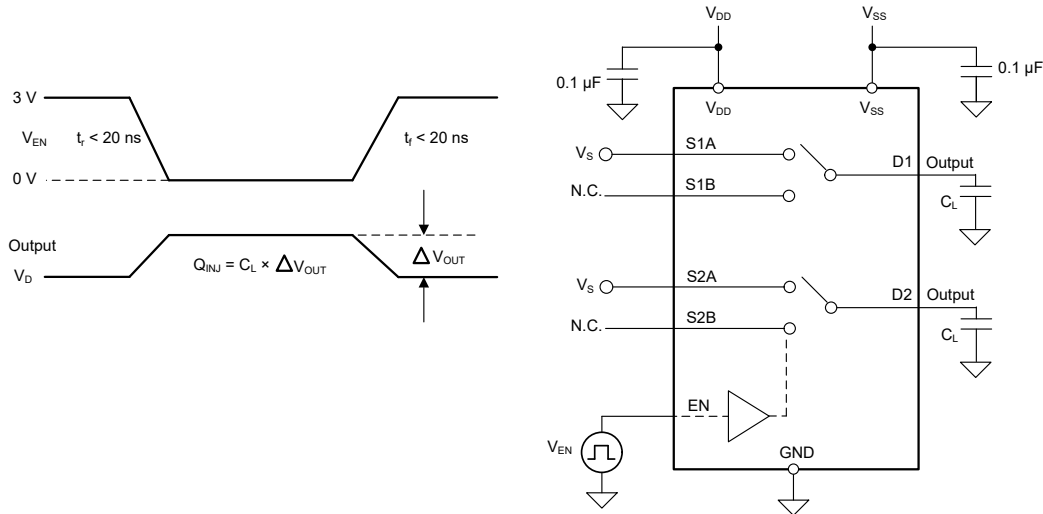

Figure 6-9. Charge-Injection Measurement Setup
The TMUX7236 has a transmission-gate topology. Any mismatch in capacitance between the NMOS and PMOS transistors results in a charge injected into the drain or source during the falling or rising edge of the gate signal. The amount of charge injected into the source or drain of the device is known as charge injection, and is denoted by the symbol  $Q_{INJ}$ . Figure 6-9 shows the setup used to measure charge injection from source (Sx) to drain (D).